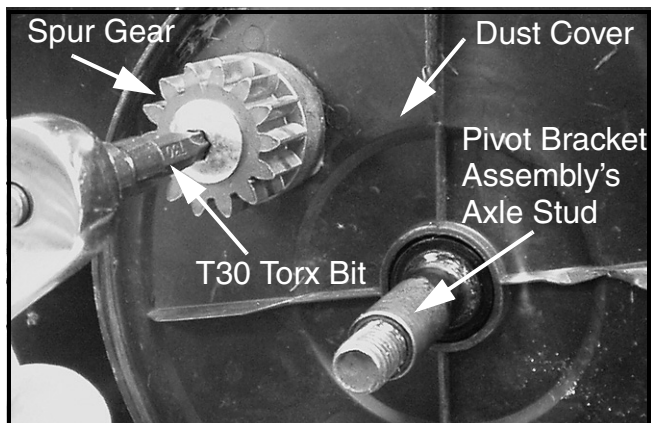

FIGURE 4
13. Using a T30 Torx bit and ratchet **and holding the vise grip pliers to keep the transmission axle from rotating**, remove the Torx head screw retaining the spur gear to the transmission's output shaft. Note the assembly sequence as you remove the spur gear, dowel pin, flat washer and wheel dust cover. See Figure 4.